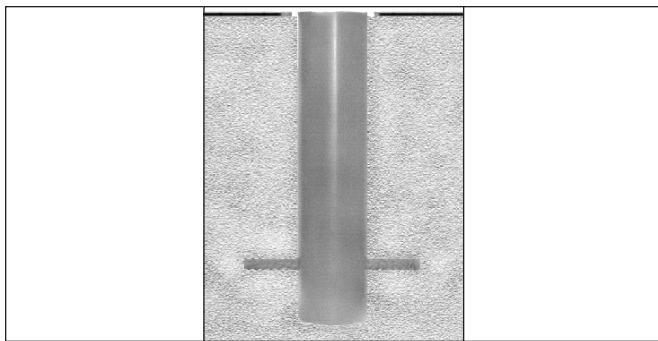
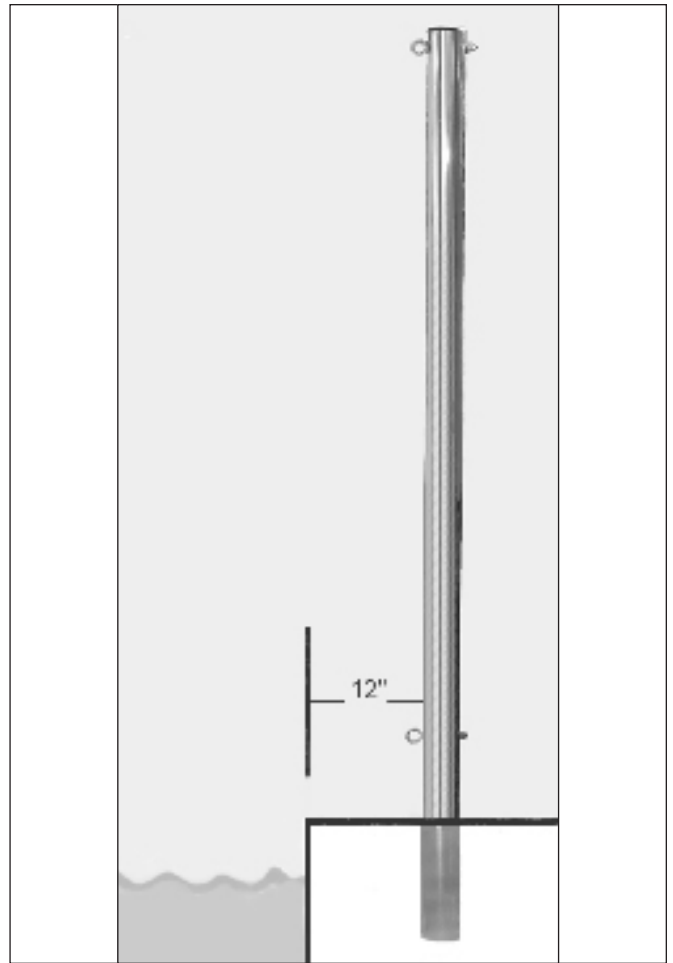

Figure 3
Figure 4
**STEP ONE:** Volleyball poles must be anchored into deck with either the bronze 6" anchors or the 8" plastic anchors with rebar. Position the anchors 12" from the edge on the pool (as shown in Fig. 4) on the shallow end of the pool. Anchors must be level and flush with the top of the finished deck surface (as shown in Fig. 3). Ground bronze anchors (if used) in accordance with local codes. Both anchors are supplied with caps which can be used if the poles are removed.
**STEP FIVE:** Attach the 4-1/2" x 2" eyebolts with the 4-1/2" acorn nuts (as shown in Fig. 3). Insert the black caps into the pole tops.